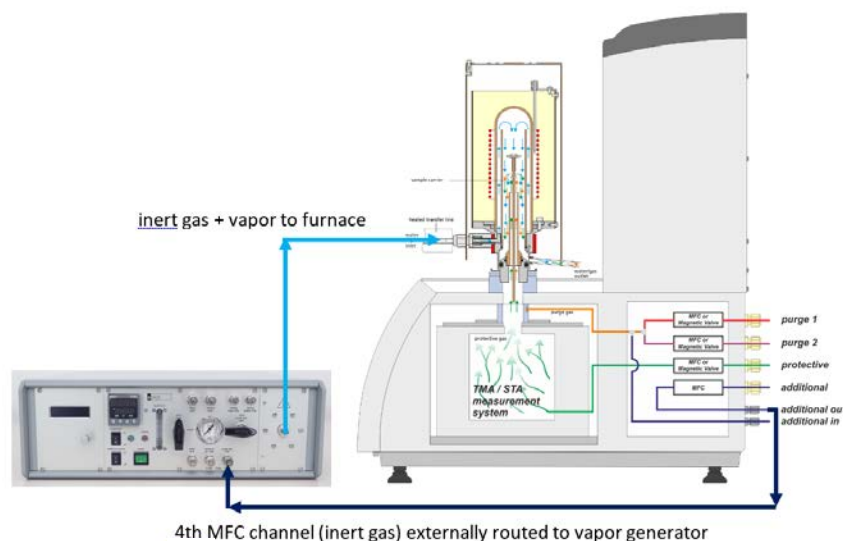

Fig. 3. STA 449 **F3** Jupiter® with water-vapor furnace and steam generator
The modular **F1/F3** Jupiter® models offer the additional capability of special furnaces and accessories designed for measurements under humid or corrosive atmospheres. The unique water vapor furnace (pictured Figure 3) is designed for TGA and DSC measurements to 1250°C in up to 100% steam. The ability to introduce high concentrations of steam at high temperatures makes the setup an ideal tool for studying hydrogen production processes such as thermochemical water splitting. Corrosive gases, including ammonia (NH₃), methane (CH₄), carbon monoxide (CO) and some halogens can be introduced into **F1/F3** Jupiter® models via special corrosion resistance external MFCs under defined conditions*.